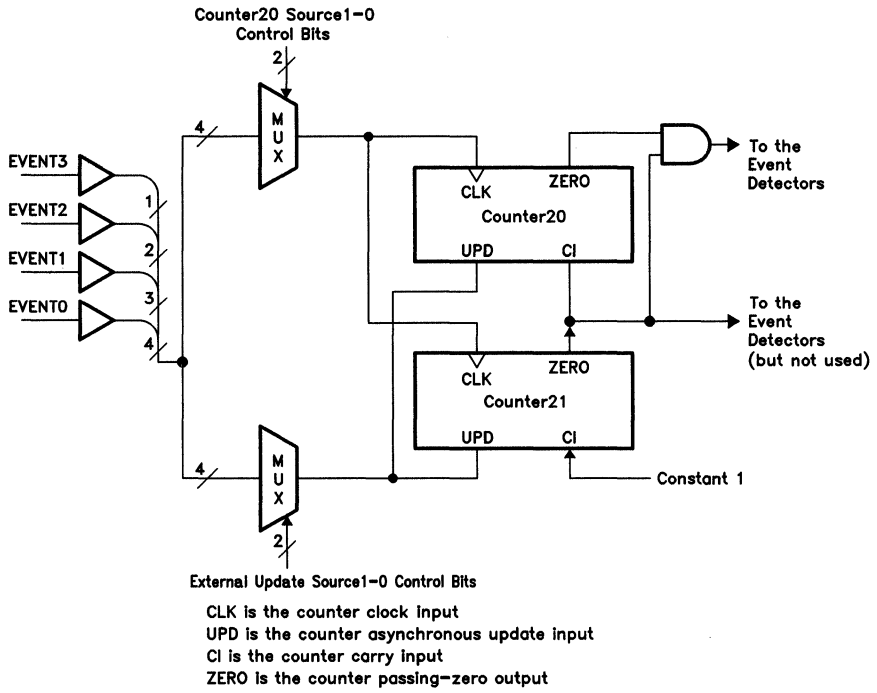

FIGURE 19. CONCATENATED USE OF COUNTER20 AND COUNTER21
- Concatenated use means events are counted as decided by the control9 register and OPERATE2 command bits only. They are a single 32-bit counter (see Figure 19).